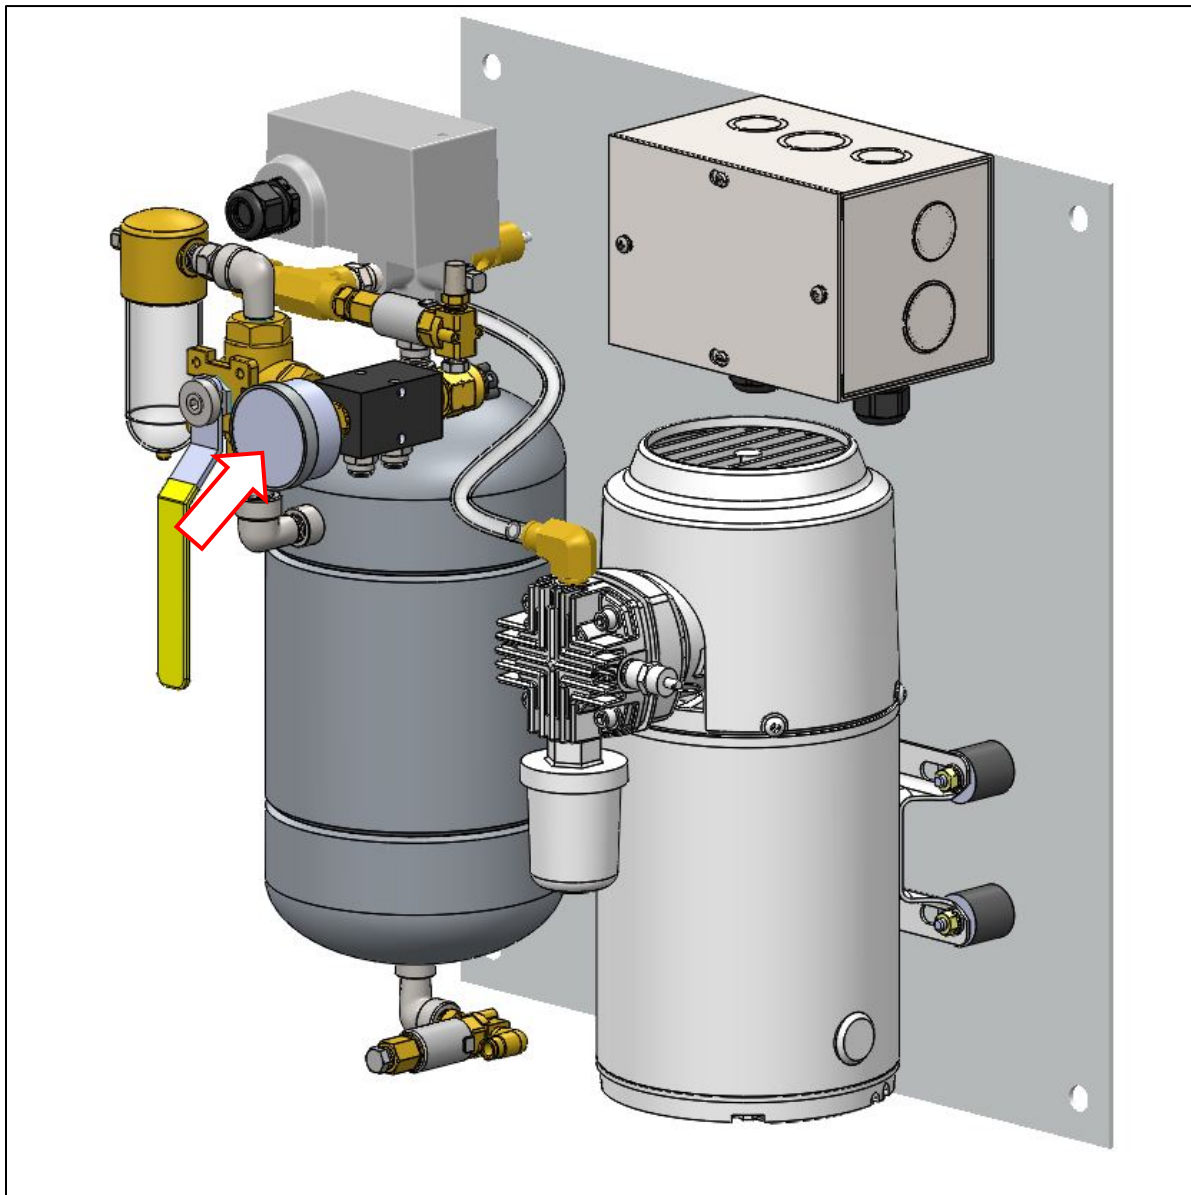

FIGURE 1.16-1: AIR COMPRESSOR ASSEMBLY
- 2) While the purge valve is open, observe the air pressure, (gauge indicated in Figure 1.16-1) in the tank. The compressor should switch on below 70 psig (4.7 barg).